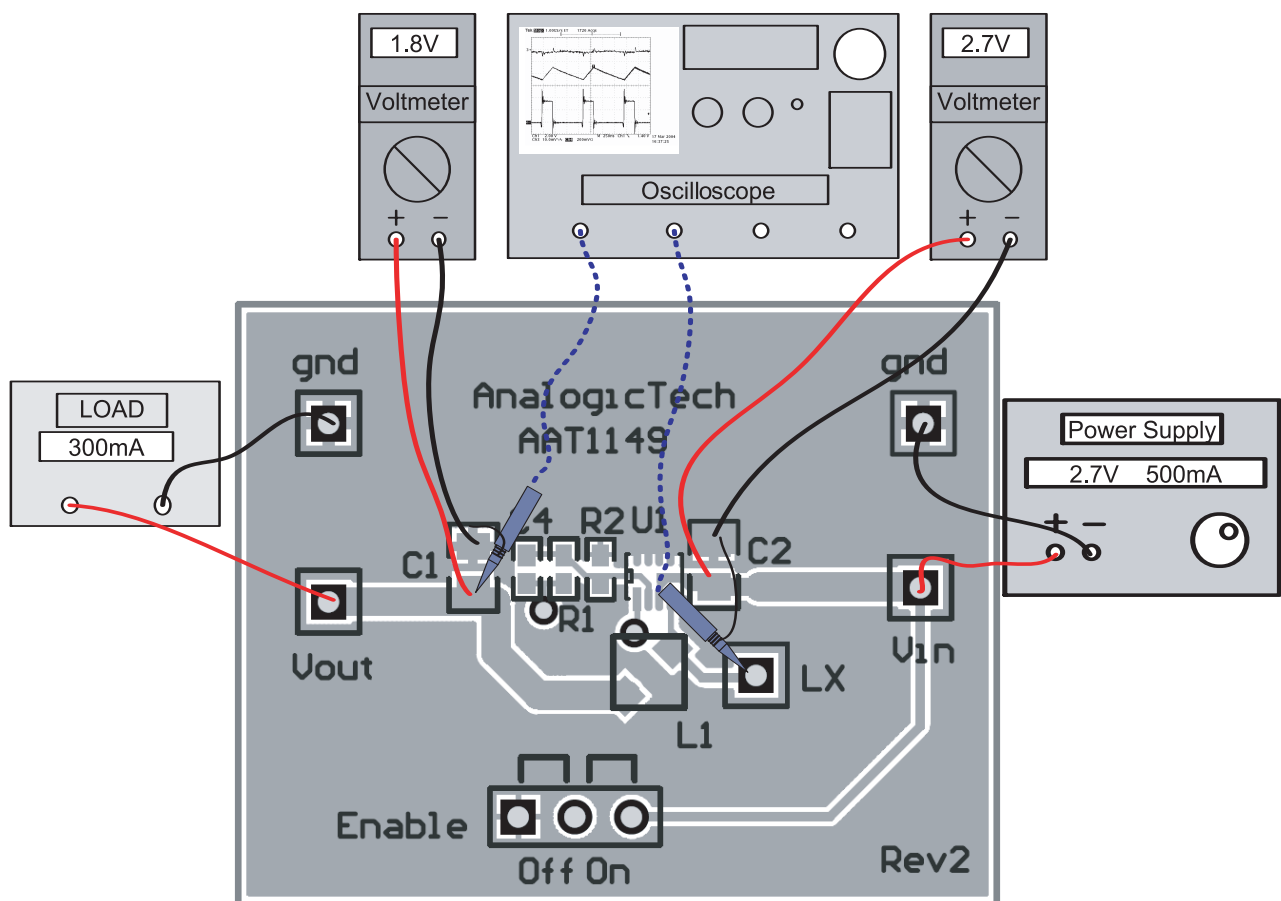

Figure 2: AAT1149 Evaluation Board Connection Diagram for Line and Load Regulation.
1. Configure the specified test equipment as shown in Figure 2.